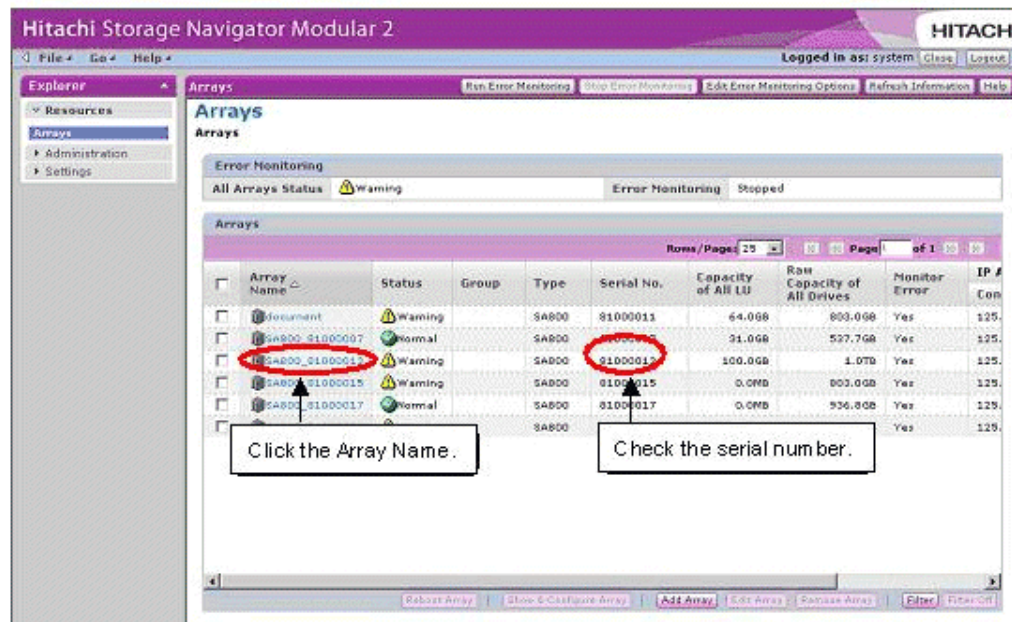
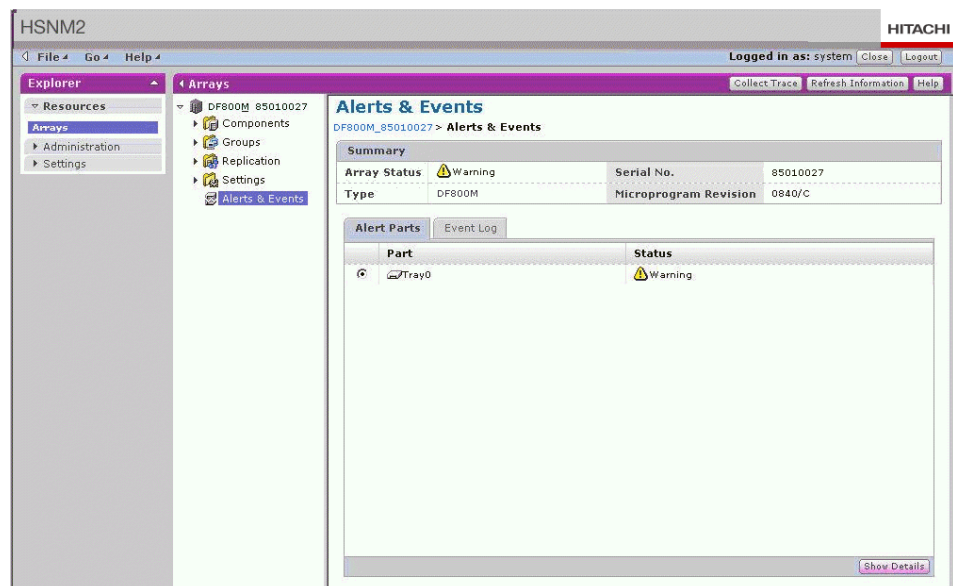

Figure 6-3: Locating the Array Name and Serial Number
Figure 6-4: Example of the Failure Parts List Tab
3. In the **Arrays** area, check the status and serial number of the array where the failure occurred (see Figure 6-3 on page 6-10).
4. If you received an email about the failure or used SNMP to detect the failure, check that the hardware serial number in the email/SNMP matches the one on The array (see Figure 6-3 on page 6-10).
6. From the Arrays area shown in Figure 6-3, click the name of the array. When the next screen appears, click either **Alerts & Events** in the Array List window or **Check for Errors** in the Common Array Tasks area. In the **Alert Parts** tab, check for the failed part, such as a disk drive (see Figure 6-4).